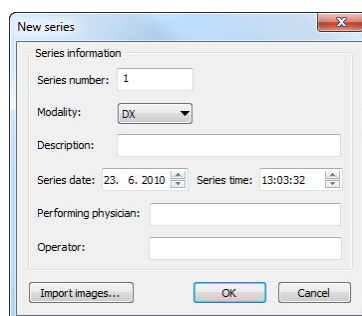

Figure 339 – New series dialog
3. Fill the information concerning the new series into the **New series** dialog (see Figure 339) and push the **OK** button.
3. Fill the information concerning the new series into the **New series** dialog (see Figure 339).